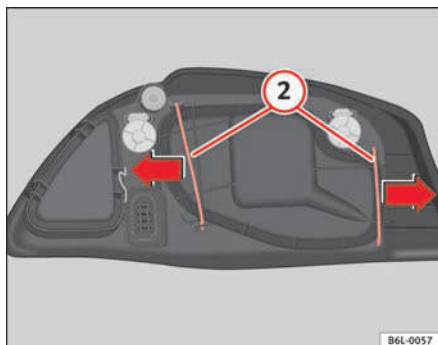

Fig. 142 Dipped headlight lamp
- Remove the loops ② ⇒ fig. 142 outwards in the direction of the arrow and remove the cover.
- Fit the plastic cover and replace the loops ② ⇒ fig. 142.